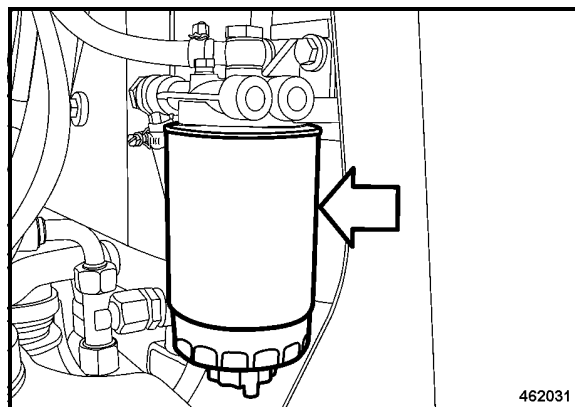

Fig. 146
- Slacken and unscrew the fuel filter cartridge (Fig. 146).